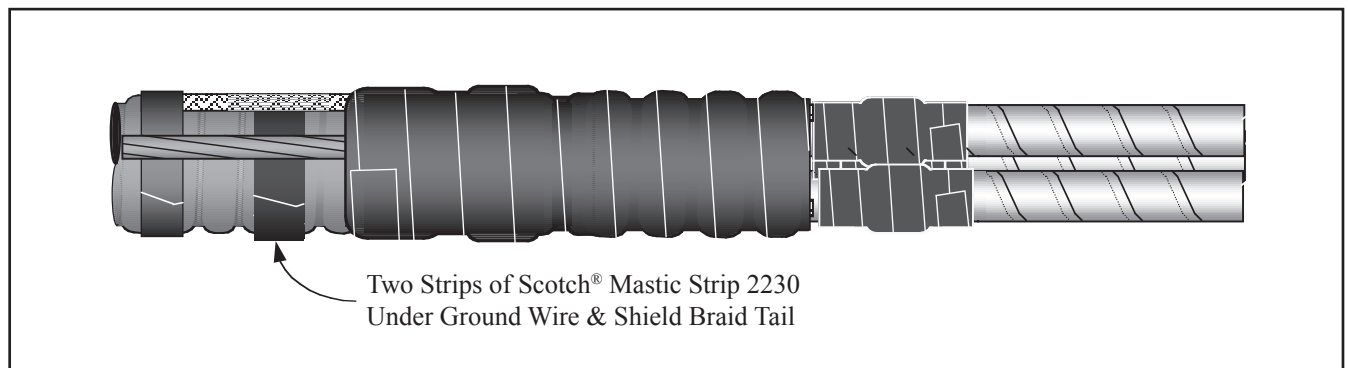

Figure 8
- 2.11 Wrap two strips of Scotch® Mastic Strip 2230 (one on top of the other) over cable jacket. Locate the mastic strip directly under the shield braid solder block and ground wire (*Figure 8*).